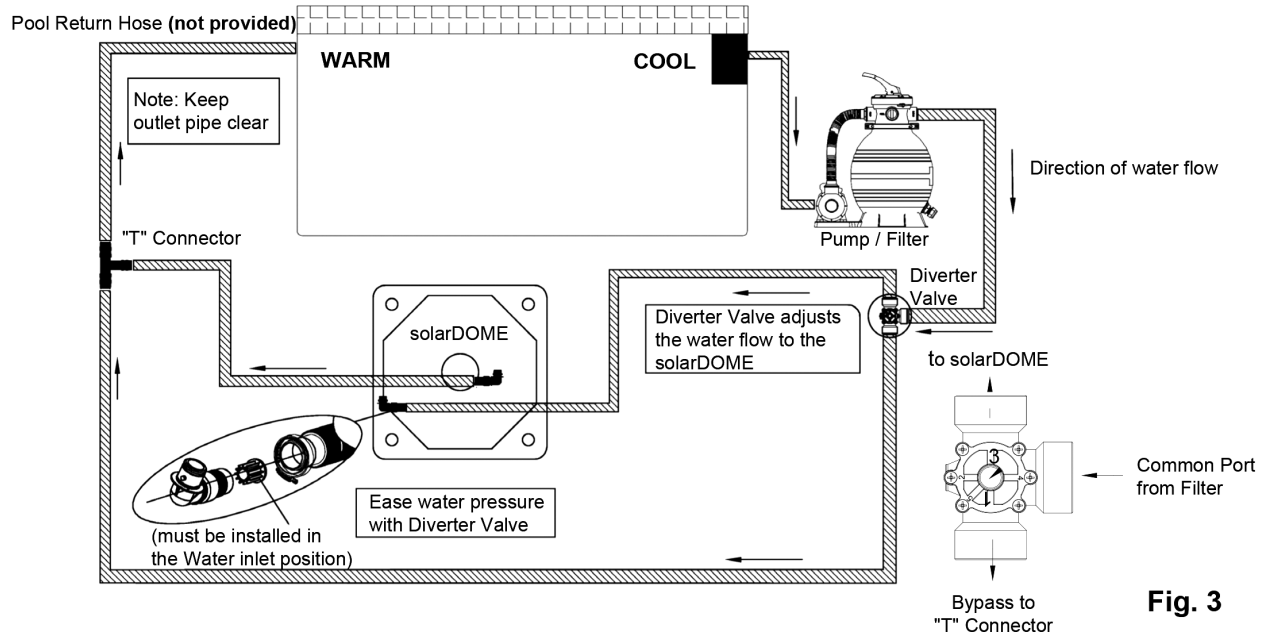

Fig. 3
NOTE: The connections in Fig. 3 & 4 show the water flowing into the solarDOME through the side connector and out through the center connector located on the underside of the solarDOME. This diagram is for reference only as the flow may be reversed if you choose.
- B. Position the Diverter Valve exactly as shown in the diagram on Page 4 (see Fig 3). The valve must be installed correctly for the solarDOME to work. Failure to position the Valve correctly will reduce the solarDOME 's ability to heat the pool water.
- F. Connect a hose from the Elbow to the Diverter Valve (see Fig. 3 & 4).
- A. The "T" Connector must be positioned exactly as shown in Figures 3 & 4. Failure to position the "T" Connector correctly will reduce the effectiveness of the solarDOME.